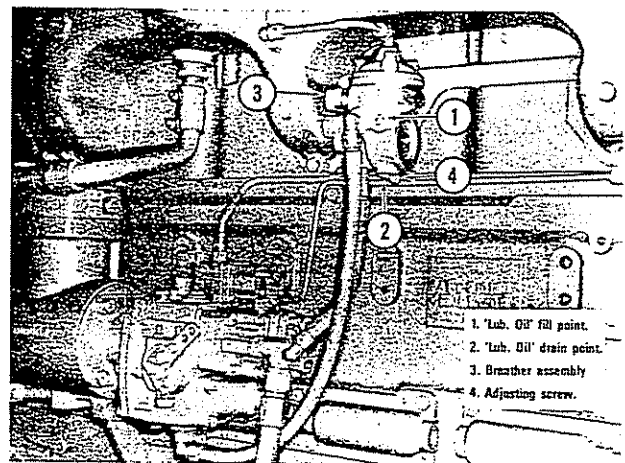

Fig. 2-64, (N10503). Aneroid
1. Remove fill plug (1, Fig. 2-64) from the hole marked "Lub oil".
Remove and replace the aneroid breather (3, Fig. 2-64).